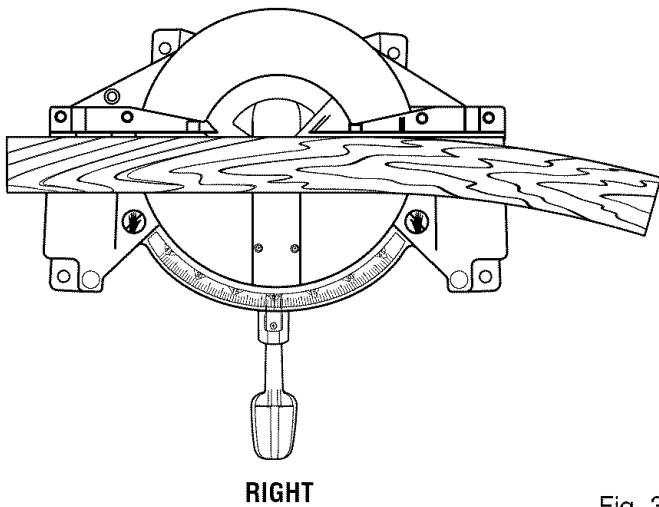

Fig. 33
- Place the workpiece flat on the miter table with one edge securely against the fence. If the board is warped, place the convex side against the fence. If the concave edge of a board could collapse on the blade at the end of the cut, jamming the blade. See Figures 33 and 34.
See Figures 33 and 34.
When cutting warped material, always make sure it is positioned on the miter table with the convex side against the fence as shown in figure 33.